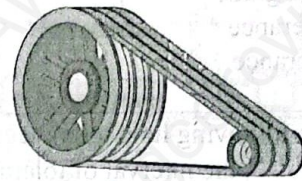

Figure: 28
50. Identify the type of power transmission in figure 28 below.